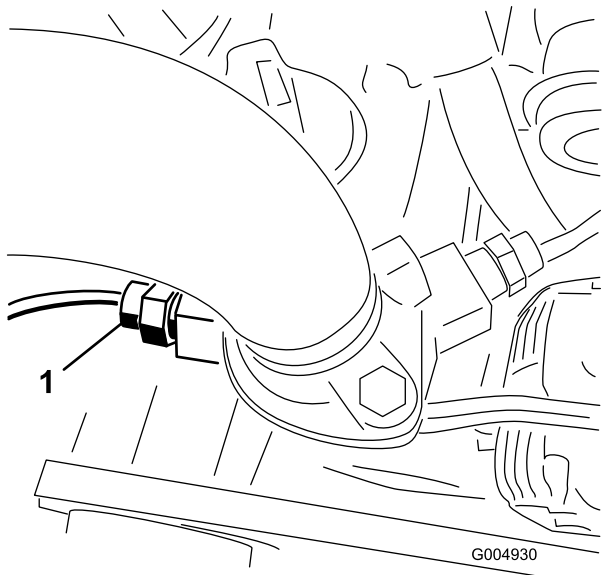

Figure 21
16. Disconnect the wire and remove the thermo-switch from the left side of the engine thermostat housing (Figure 21). Discard the switch.